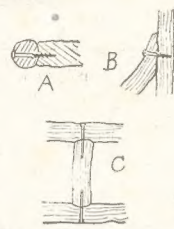

Fig. 4—Section showing joints
Cut the horizontal rails from 1½ ins. to 2 ins. wood. The ends of these should be roughly chiselled to a curve to fit the posts, then the rails are firmly attached to them with a coach screw in each joint, as in detail (A) in Fig. 4.